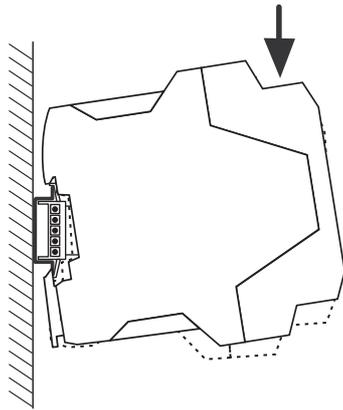

Figure 7-2 Mounting a MSI 100/200 module on the DIN rail
2. Place the module onto the DIN rail from above so that the upper retaining groove of the module is hooked onto the top edge of the DIN rail (see Figure 7-2).